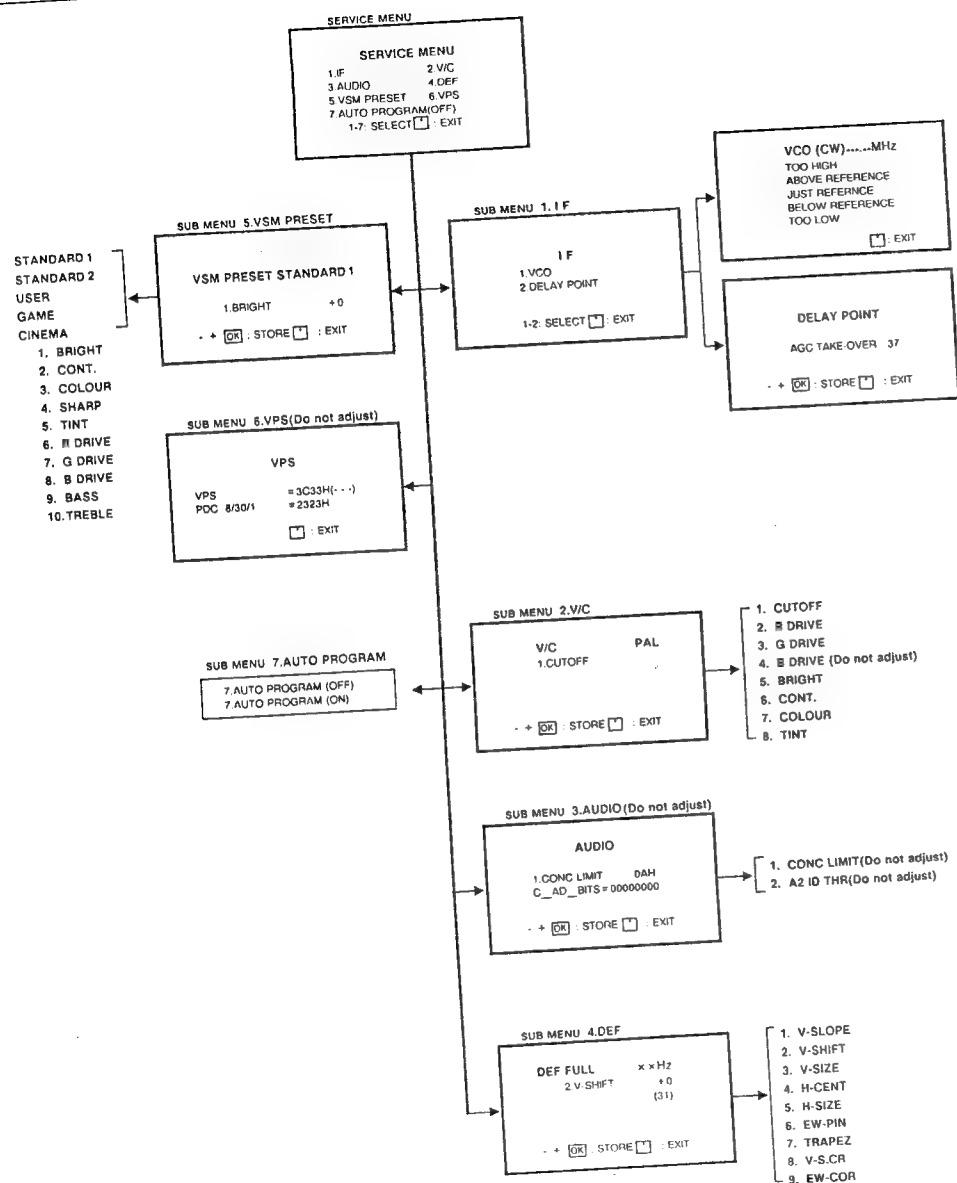

Fig. 3 SUB MENU SCREEN
1) Press one of the keys 1 ~ 7 of the REMOTE CONTROL UNIT, and select the SUB MENU SCREEN (See Fig. 3) from the SERVICE MENU.